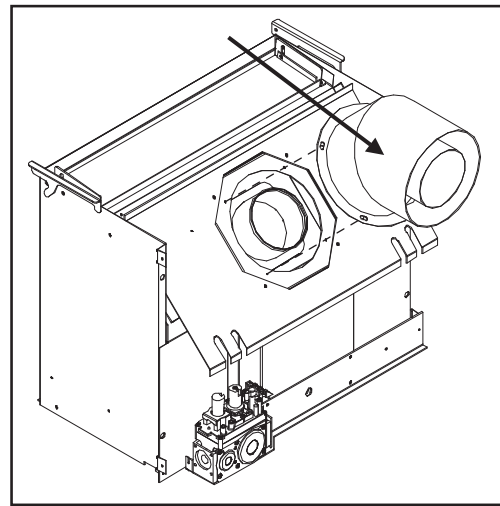

Figure 40: Step 4 of Converting Top Vented into Rear Vented.
4. Turn the elbow to the rear vent position and re-fasten with the screws removed in step 2 (see Figure 40).